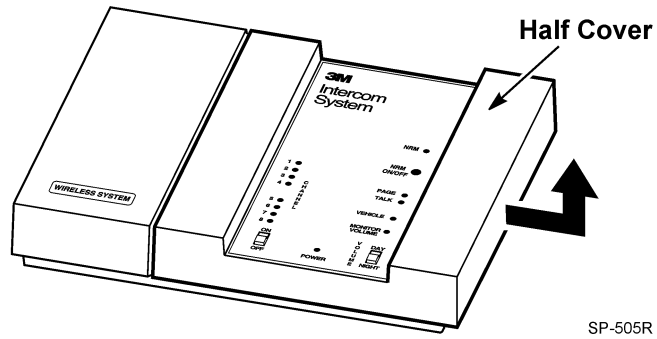

Figure 17.
1. Pull outward on the right side of the base station half-cover and then lift and remove the cover. See Figure 17.